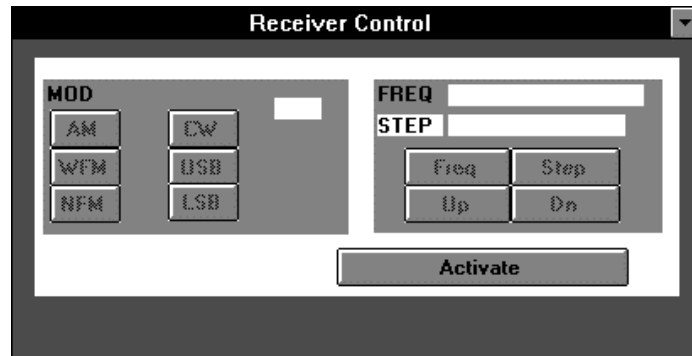

Figure 5-15: Receiver Control Dialog Box
2. Open the **Receiver Control** dialog box (Figure 5-15) by clicking on **Control** on the **Main Menu** bar and then selecting **Receiver** from the **Control** dropdown menu.